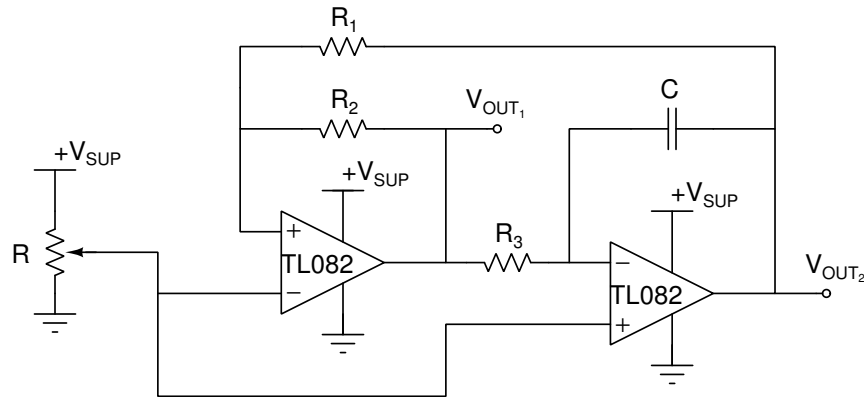

Figure 3: Oscillator circuit using a Schmitt trigger and an inverting integrator.
Introduction: Two LM741 Operational Amplifiers (OpAmps) are used to produce an oscillator. A system level block diagram is shown in **Figure 1**. The oscillator is formed by connecting the output of a Schmitt trigger **Figure 2** to the input of an inverting integrator, and connecting the output of the inverting integrator back to the input of the Schmitt trigger. The entire oscillator circuit is shown in **Figure 3**. The only input to the circuit is a DC voltage $+V_{SUP}$. The circuit produces both a square wave and a triangular wave output signal. You are to design an oscillator which meets the following specification:
5. Describe how the circuit shown in **Figure 3** functions. Sketch the shape of the expected output signals V_{OUT1} and V_{OUT2} as a function of time. Assume the variable resistor is set to the mid-point resistance.
8. Perform a transient simulation of the circuit of **Figure 3** with the LM741 OpAmp. What is the simulated value of the oscillation frequency? What is the duty cycle? You will need to generate your own MATLAB® file and hspc file. Use the MATLAB® and hspc files from previous labs as templates.
Build the oscillator circuit in **Figure 3** using the component values you determined in the Pre-Lab. Set the potentiometer (variable resistor) near the mid-point resistance.